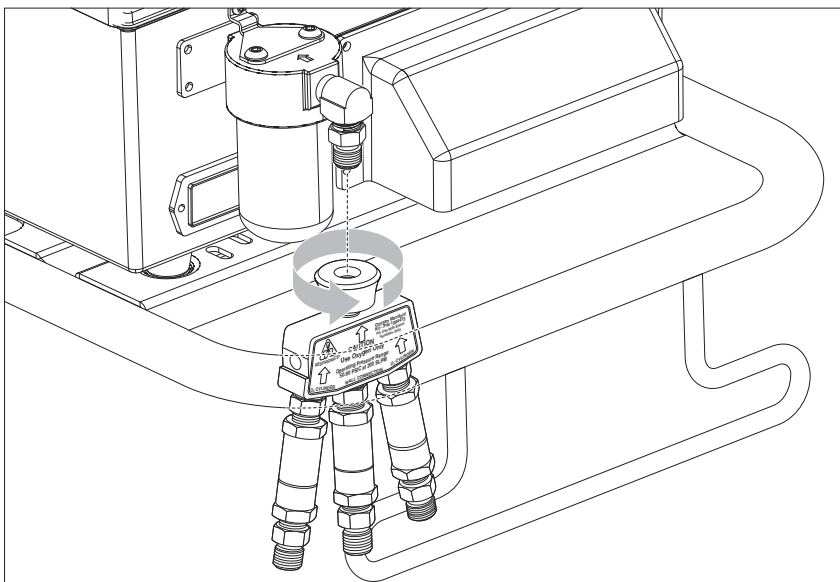

Figure 13-9: Ventilator With Oxygen Manifold
2. Attach the oxygen manifold assembly to the ventilator by threading the adapter fitting onto the oxygen inlet elbow fitting. Using the manifold for leverage, rotate the oxygen inlet elbow fitting until the manifold assembly is vertical, as shown in Figure 13-9.